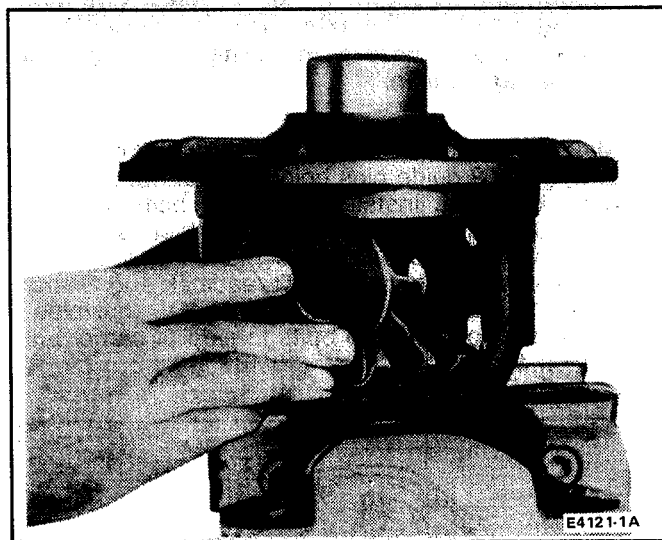

FIG. 40 Removing Pinion Mate Gears
3. Rotate the pinion mate gears and side gears until the pinion mate gears turn to the windows of the case. Remove pinion mate gears and spherical washers (Fig. 40).